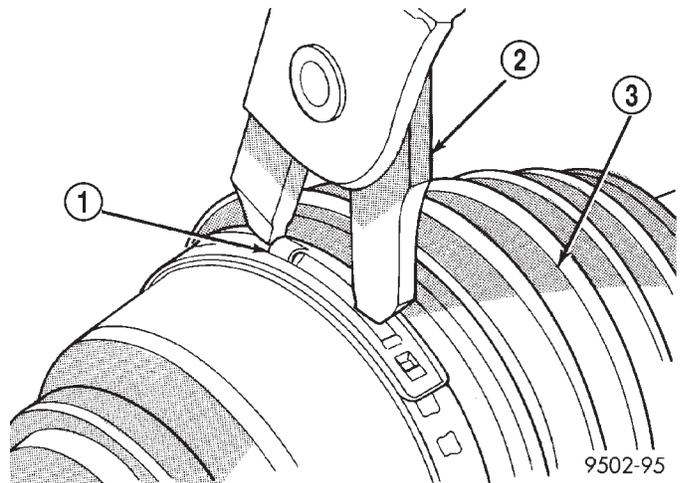
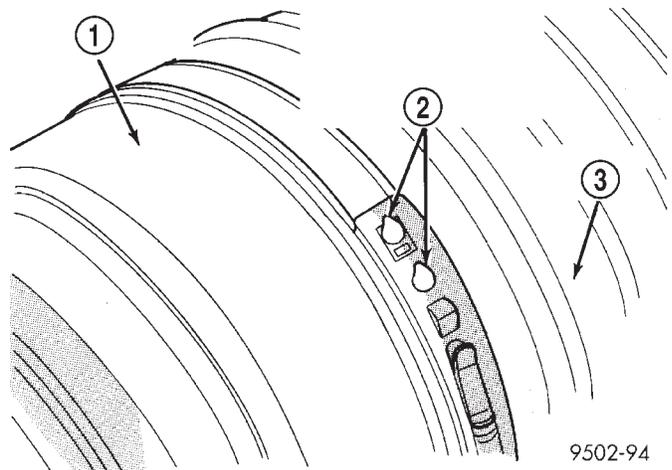

Fig. 34 Clamping Tool Installed on Sealing Boot Clamp
Fig. 35 Sealing Boot Clamp Correctly Installed
(12) If seal boot uses low profile latching type boot clamp, clamp sealing boot onto tripod housing using clamp locking tool, Snap-On® YA3050 (or an equivalent). Place prongs of clamp locking tool in the holes of the clamp (Fig. 34). Squeeze tool together until top band of clamp is latched behind the two tabs on lower band of clamp (Fig. 35).